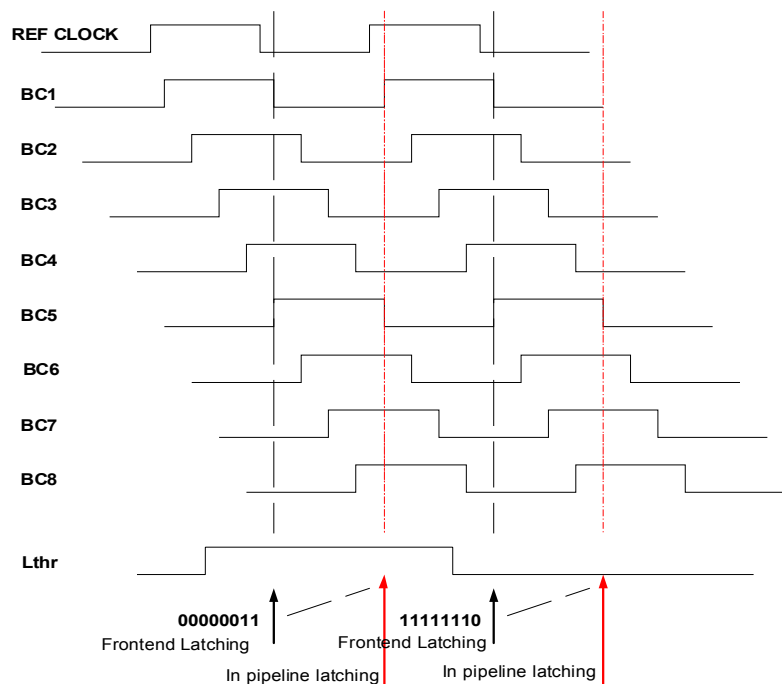

Figure 2.6 DLL clock synchronisation
2. Special care should be taken to avoid any ambiguity during the loading in the Pipeline (see Figure 2.6) as one could easily introduce a 25 ns error if the phase between the BC8 signal and the Pipeline load is not properly adjusted. We should not have any events for which a 25 ns error is introduced, see 2.2.3.1